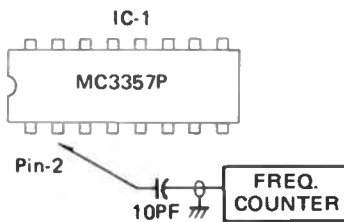

FIGURE 2.
Step 1: Connect Frequency Counter through a 10pF capacitor to IC-1, Pin 2. (See Figure 2)